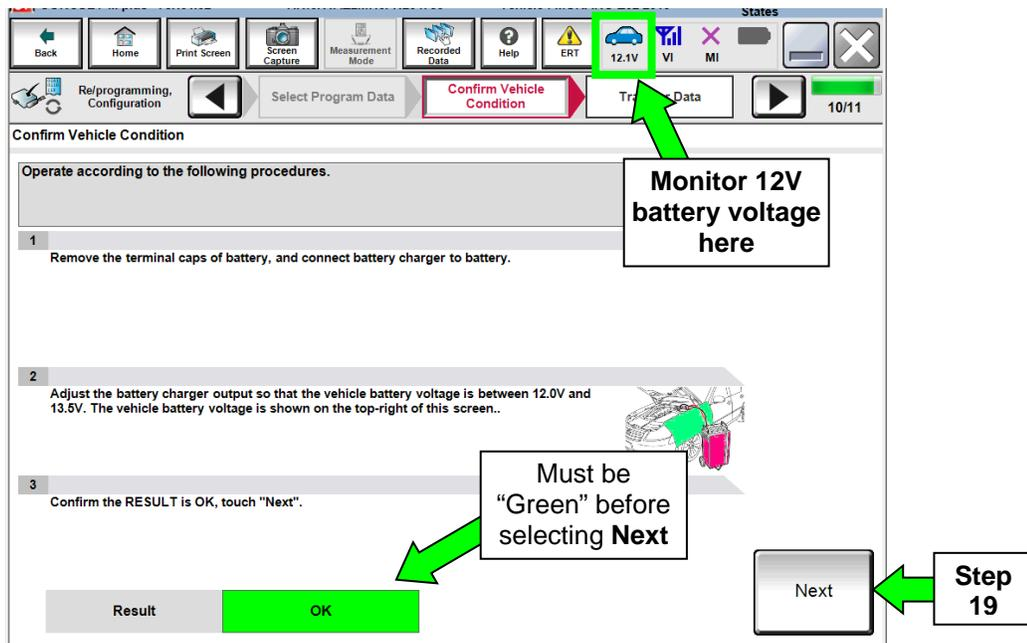

Figure 13
- If no **Saved Data List** is stored, Figure 13 on the next page will be displayed. Proceed to step 19.